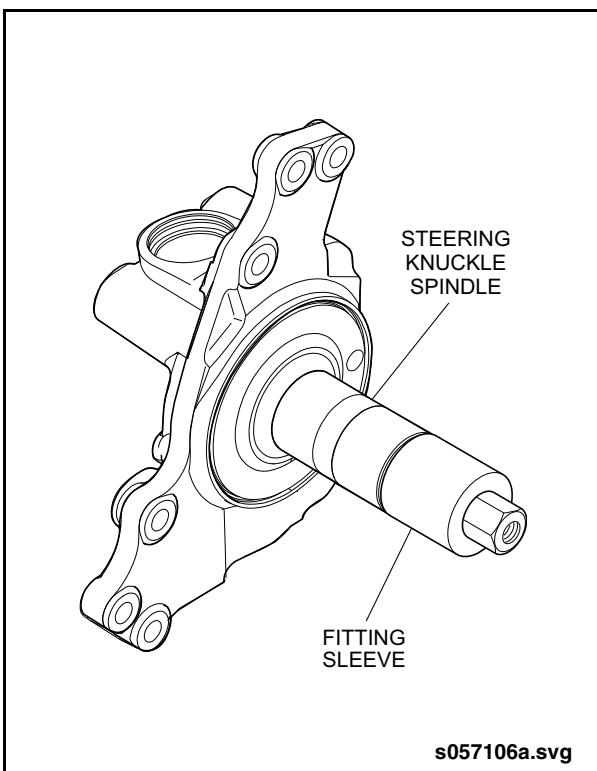

Fig. 1-17: Hub Fitting Sleeve Installation
2. Thread the fitting sleeve (Item 42 from special tools list) onto end of spindle. See "Fig. 1-17: Hub Fitting Sleeve Installation" on page 17.